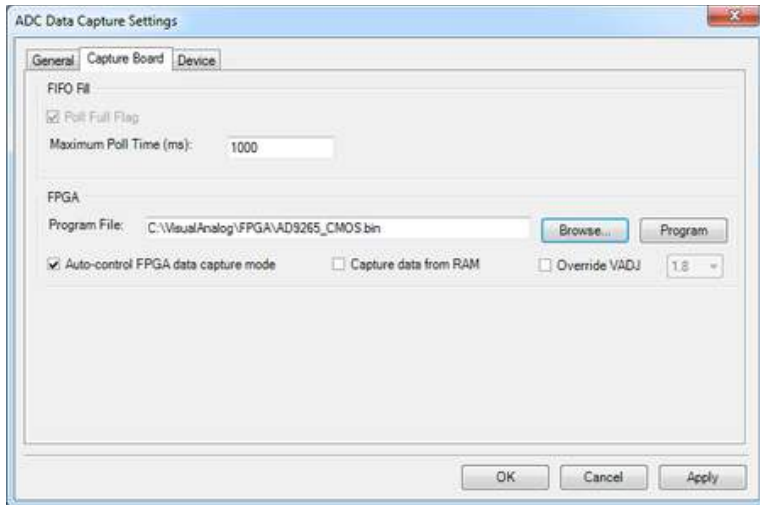

Figure 3b. VisualAnalog, Programming the FPGA for the AD9246S
2. Once Visual Analog opens click on the settings in the ADC Data Capture block to select the appropriate FPGA bin file for the AD9246S. For this product the FPGA bin file is AD9265_CMOS.bin. Download this file from this Wiki page and save to a known location such as the one shown in Figure 3B. Select this file and click the **Program** button. (See Figure 3b)